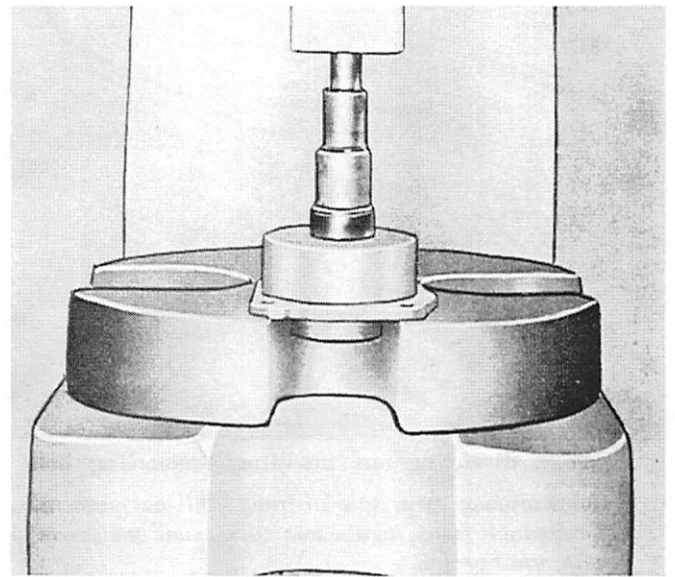

Figure 3. Pressing Out End Cap Bearing
4. Remove roller and sealed ball bearing in upper bearing housing with Needle Bearing Drift (91-24739), large end. (Figure 3) Press out from needle bearing side, as this will press out sealed ball bearing.